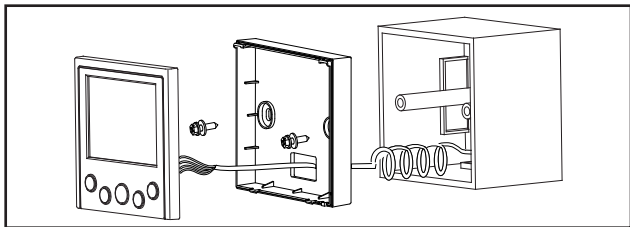

Figure 3. Installation
3. Adjust the length of the two plastic spacers as needed to allow the controller to be mounted flush with the wall. **NOTE** – Be sure to provide for future maintenance by allowing enough slack in the wiring to allow the controller to be removed from the wall if needed. See Figure 3.
4. Attach the back cover using factory-provided screws or other fixing method as appropriate for the application. See Figure 3.